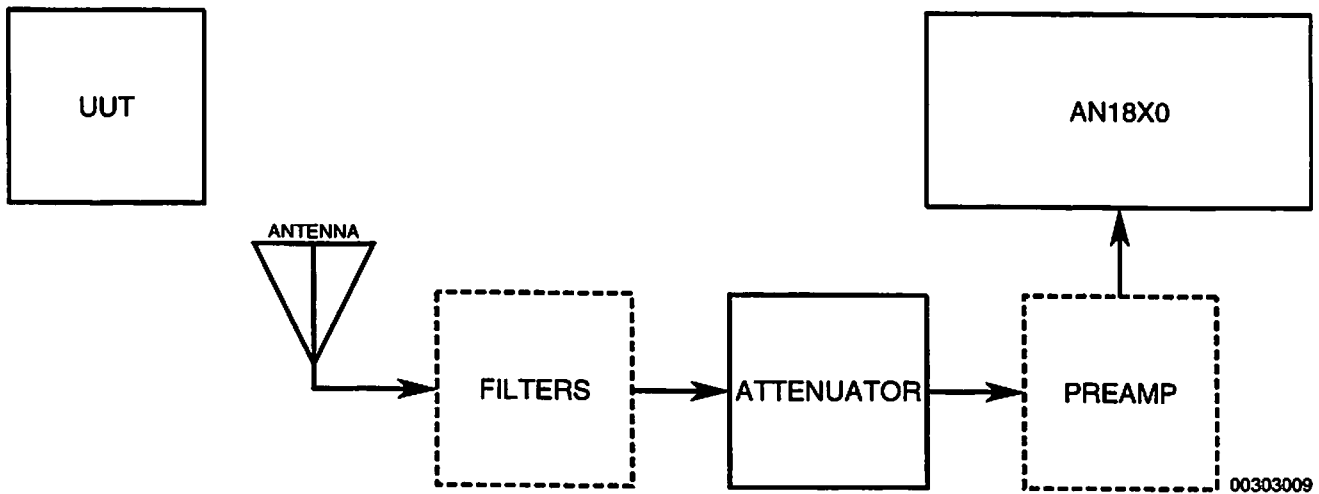

Figure 7-4 Radiated EMI Test Hook-Up
2. For radiated EMI testing, set up and connect equipment as shown in Figure 7-4: